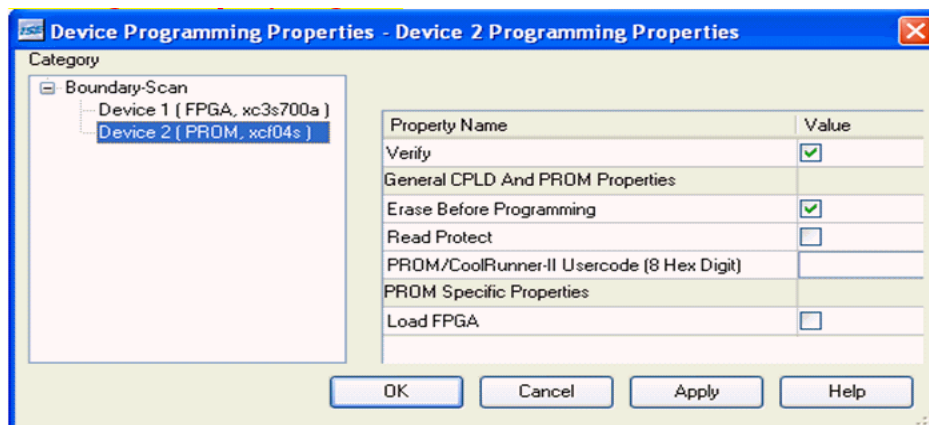

Figure 7-5: Device Programming Options
- When the Device Programming Properties Dialog Box appears (see Figure 7-5). Select the **Verify** option.